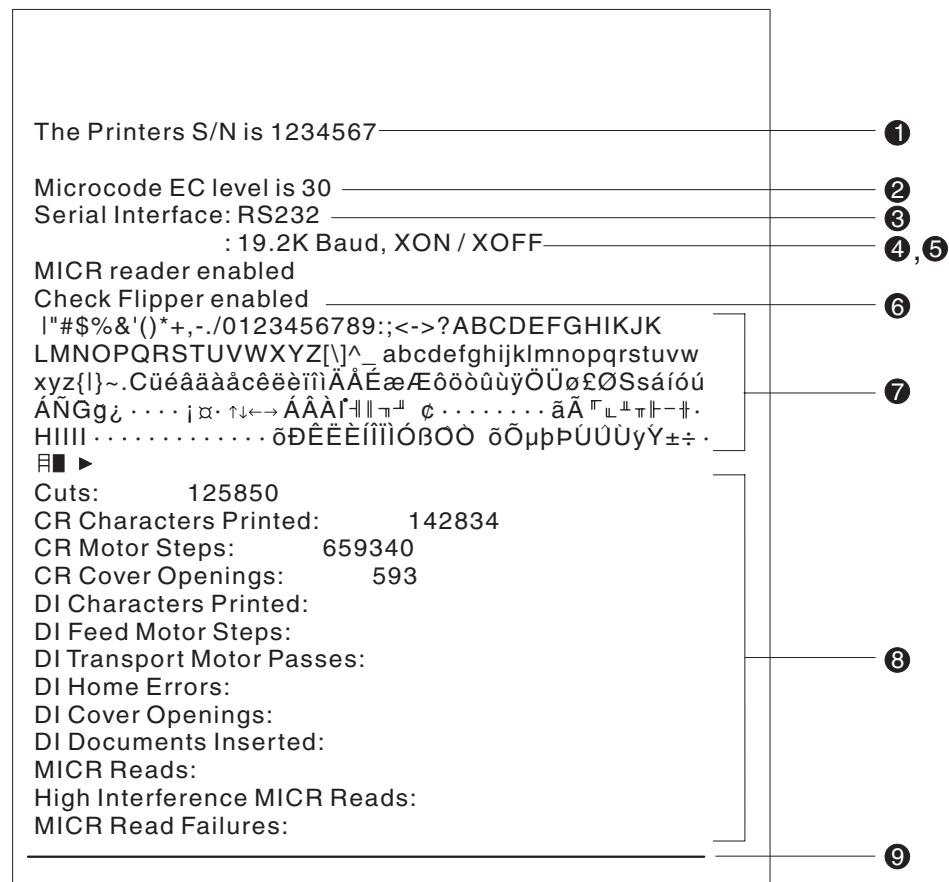

Figure 32. Offline Printer Test Pattern – Customer Receipt Station (Models TI1, TI2, TI3, TI4, TI8, TG3, TG4)
3. See Figure 32 on page 63 and verify that your printer has printed correct information for your model and configuration:
If any characters that appear in Figure 32 on page 63 are missing from the test pattern that you print, or if the solid line is missing, go to "Problem determination" on page 66.
4. See Figure 32 and verify that your printer has printed correct information for your model and configuration:
If any characters that appear in Figure 32 are missing from the test pattern that you print, or if the solid line is missing, go to “Problem determination” on page 66.